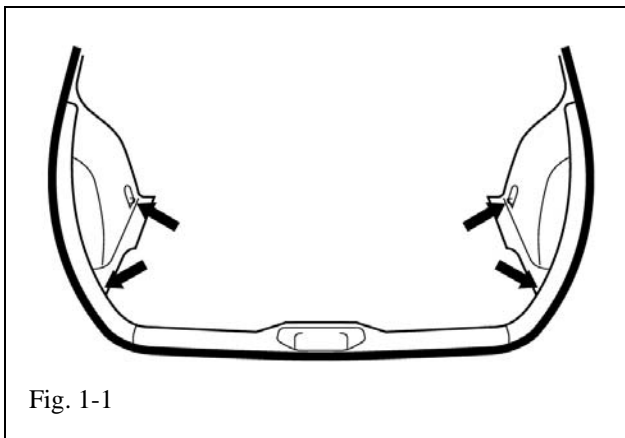

Fig. 1-1
- (a) Locate the four anchor points in the vehicle as shown (Fig 1-1).